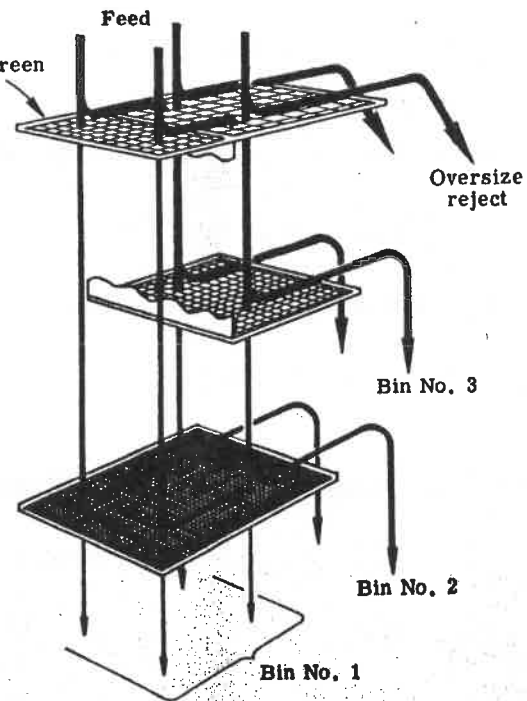

Figure 2
7. The arrangement shown in Figure 2, on the previous page, separates the aggregates into _____ bin sizes.